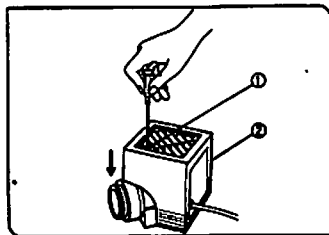
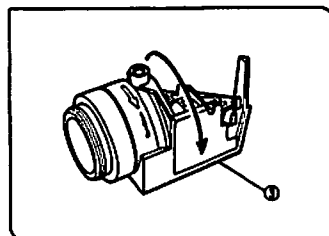

Fig. 8
Fig. 9
(Figs. 8,
- 1. Fully loosen the lamp housing clamping screw (1) on top of the lamp housing cover with the provided Allen screwdriver.
- 2. Lift the lamp housing cover (2) upward to remove it. (Fig. 8)
- 3. Turn the lamp socket (3) 90° in the direction indicated by the arrow.
- 4. Holding the bulb (4) with gloves or a piece of gauze, depress the bulb clamping levers (6) and insert the bulb pins (5) fully into the pin holes (7). Gently release the bulb clamping levers (6) to their original positions to secure the bulb. (Figs. 9, 10)
- 5. Slide the lamp housing cover onto the housing base from above. Tighten the clamping screw (1) while pressing downward on the cover. (Fig. 8)